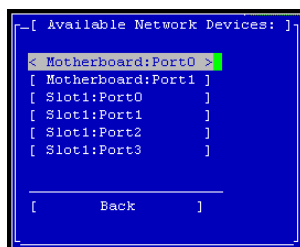

Figure 226. Selecting an Interface to Configure
1. On the Configuration Interface main menu, tab to Network TCP/IP Settings and press Enter. The Available Network Devices window opens, shown in Figure 226.